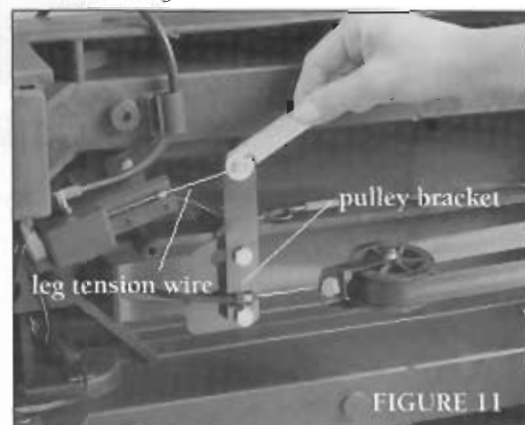

FIGURE 11
4. Tighten the bolt with the 5/16" wrench provided (Figure 11).